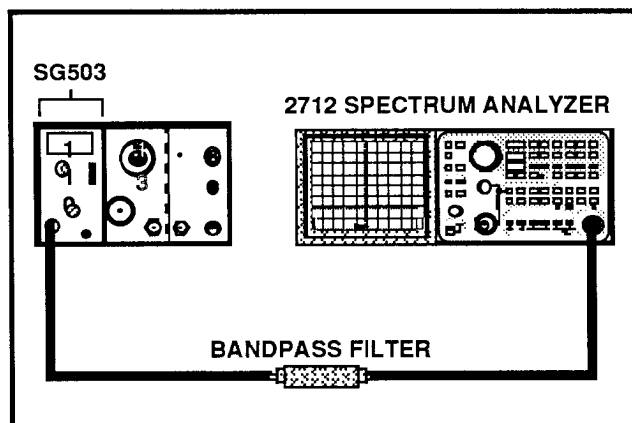

Figure 3-2. Harmonic distortion test equipment setup.
- b. Connect the test equipment as shown in Figure 3-2.